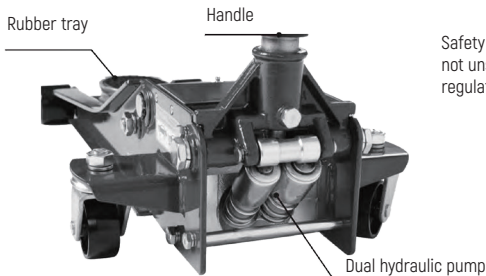

Fig. 1
- 2) Insert the handle into the socket hole (see Fig. 1).
- 3) Turn the handle counterclockwise (see Fig. 1) to open the oil return valve.